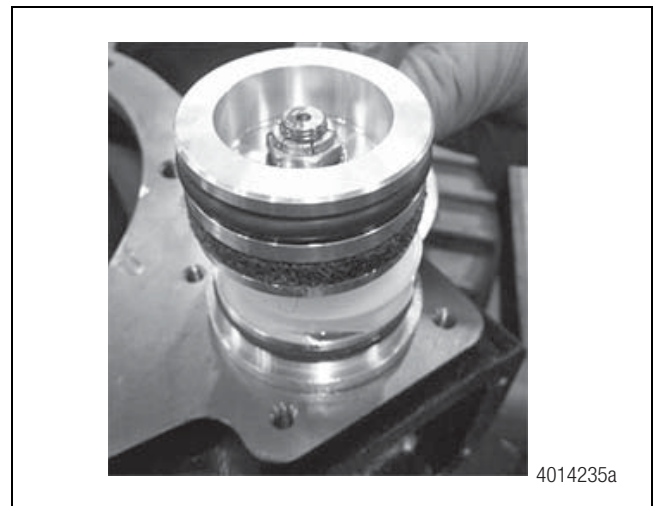

Figure 6.45
7. Position the piston on the shifter shaft. The end of the piston with the counterbore should be facing outward. Push the piston down to compress the spring and install the shifter shaft washer and locknut. Torque the nut to specification. Figure 6.45.